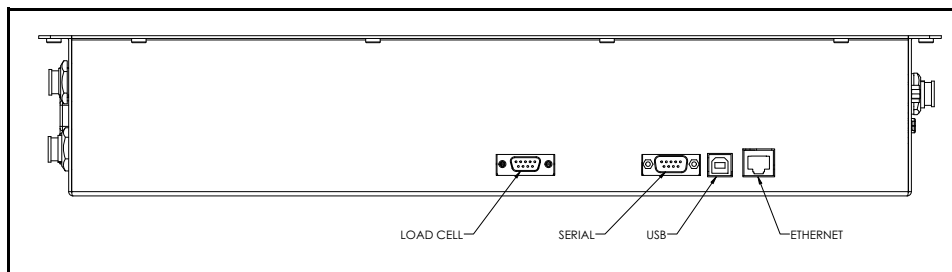

Figure 4
2. Locate your preferred port. See Figure 4.
2. Connect the Ethernet cable to the CubiScan 225’s Ethernet port, as shown in Figure 4.
1. Connect the USB cable to the CubiScan 225's USB port located on the controller box, as shown in **Figure 4**.
2. Connect the serial cable to the CubiScan 225’s serial port, as shown in **Figure 4**.